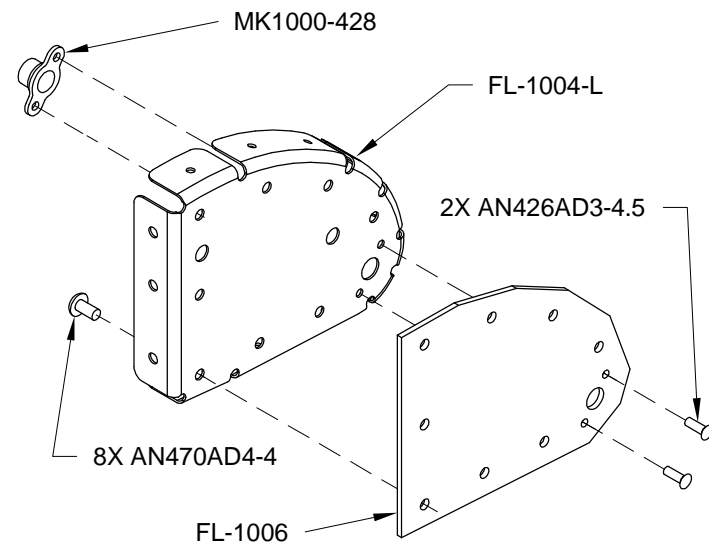

FIGURE 1: RIVET OUTBOARD ROD END RIB SUBASSEMBLY
Step 1: Rivet the FL-1004-L Nose Rib and nutplate to the FL-1006 Doubler using the rivets called out in Figure 1.